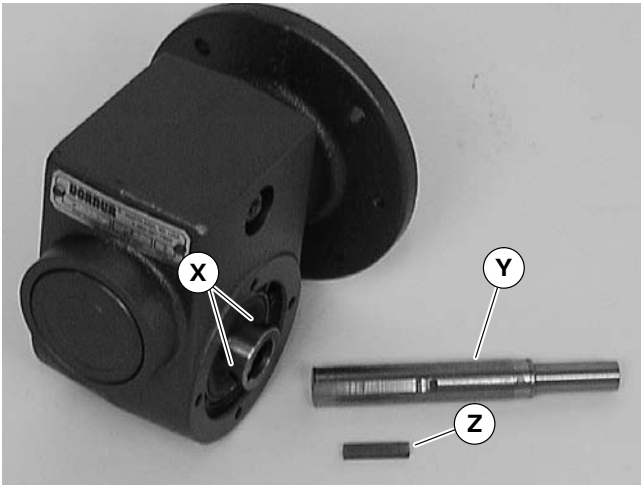

Figure 20
9. Loosen six (6) set screws (X of Figure 20). Remove drive shaft (Y) and key (Z).
11. Replace the original shaft components into new gear reducer (see Figure 20).